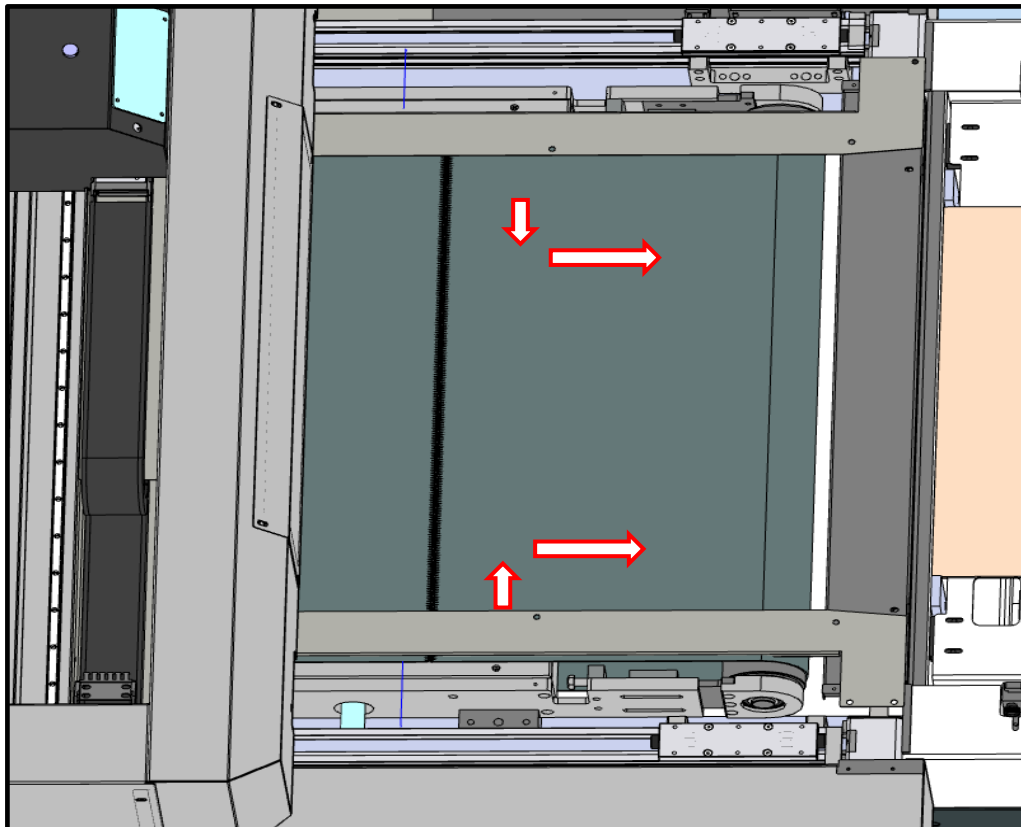

Figure 6-4
- Re-tighten and refasten the two protection strips previously removed Figure 6-4, **Error! Reference source not found.** and **Error! Reference source not found.**